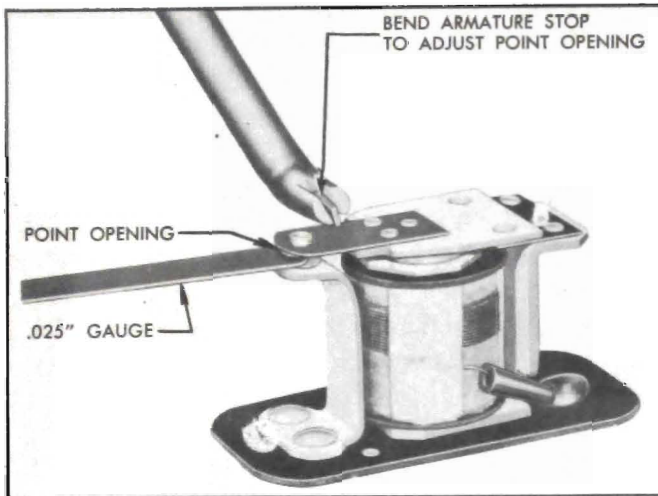

Figure 10-97—Relay Contact Point Adjustment
3. With armature free, check contact point opening, using feeler gauges. Point opening should be .025". Adjust opening to .025", if necessary, by bending the upper armature stop. See figure 10-97.